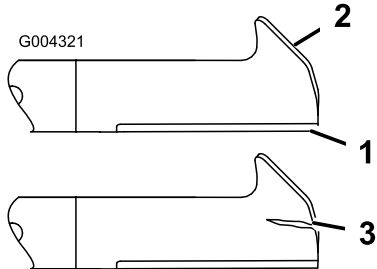

Figure 46
1. Inspect the cutting edges (Figure 46). If the edges are not sharp or have nicks, remove and
- Inspect the blades, especially the curved area (Figure 46). If you notice any damage, wear, or a slot forming in this area (item 3 in Figure 46), immediately install a new blade.